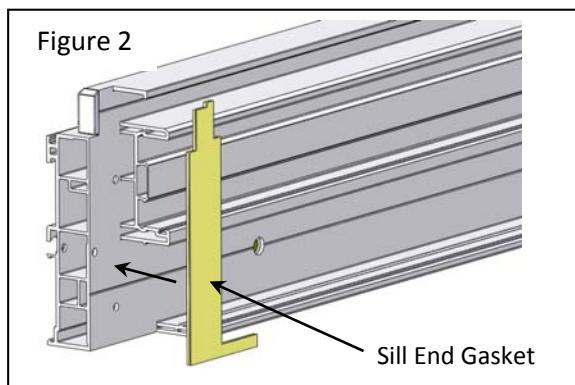

Figure 2
- 3) Clean any dirt or debris from the end surfaces of the side jambs. Remove the frame gaskets (located in hardware package) from the paper backing and carefully place them on each end of the side jambs as shown (Figs. 2 & 3). NOTE: The gaskets for the sill end are different from those for the head end. If gaskets are damaged, do not install them and call your Simonton dealer for further instructions. Proper gasket alignment is critical to prevent water from entering through the frame corners.